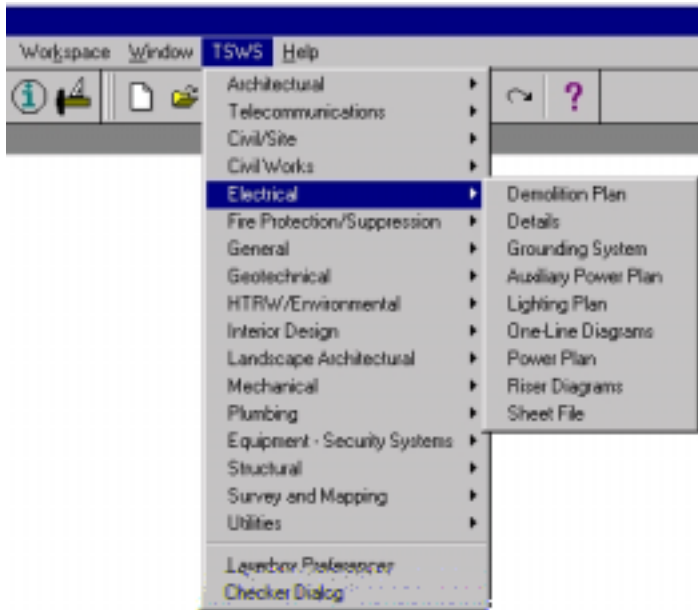

Figure 2 – Discipline Pull-Down Menu
Each discipline listed in the TSWS pull-down menu expands to show the corresponding drawing types (Figure 2). For example, the “Electrical” discipline has nine (9) types of drawings including; Demolition Plan, Details, Grounding System, Auxiliary Power Plan, Lighting Plan, One-Line Diagrams, Power Plan, Riser Diagrams and Sheet File. Once a drawing type is selected the user will be prompted for a drawing scale. The drawing scale will affect the size of placed text, symbols and patterning elements. Once the drawing scale is selected a dialog box will be deployed that contains options for other dialogs needed for all corresponding standards. Many of the dialog boxes will only change the “Active Symbology” to reflect the CADD Standards. Others will place elements in the form of text, cells, lines and patterns.